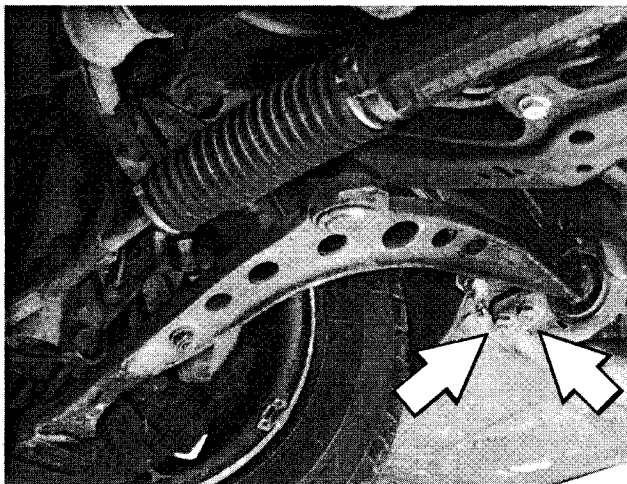

Fig. 9. Control arm bushing carrier bolts (arrows).
4. Remove control arm to subframe crossmember ball joint nut. Separate ball joint from crossmember. Working at other end of control arm, remove bolts attaching control arm bushing carrier to body. See Fig. 9.